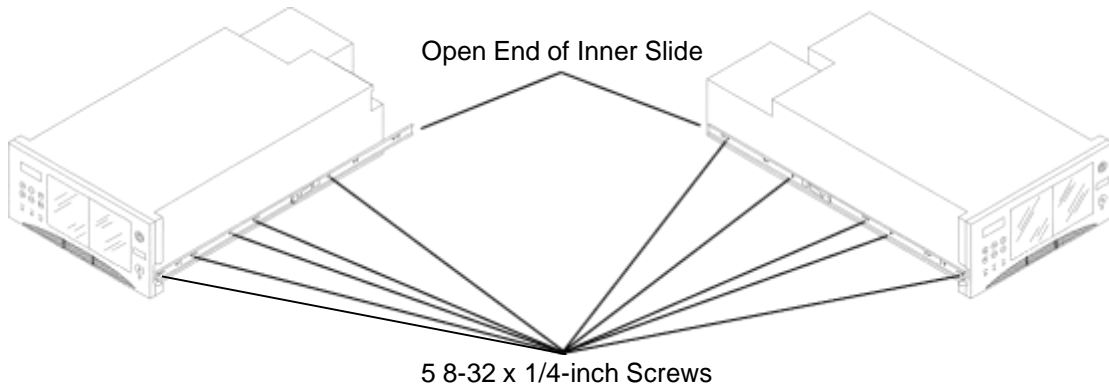

Figure 5-17 Inner Slide Mounted on the Side of the Library
1. Use five of the supplied 8-32 x 1/4-inch Phillips head screws to mount an inner slide on the library as shown in Figure 5-17. Make sure that the open end of the inner slide is towards the rear of the library.